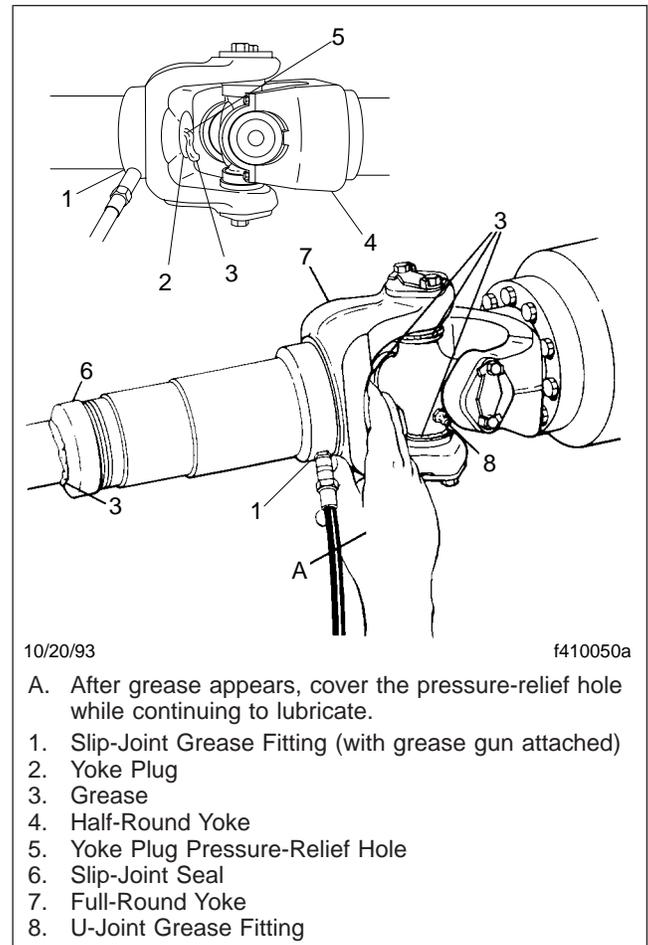

Fig. 4, Slip-Joint and U-Joint Lubricating
8. For driveshafts with slip-joints, check that the yoke plug is not loose or missing. See **Fig. 4**, Ref. 2. Replace the yoke plug if needed. If the yoke plug is missing, the splined shaft may be hitting the yoke plug and knocking it out; check the driveshaft for proper length.
1. Wipe all old grease and dirt from each U-joint grease fitting. See **Fig. 4**, Ref. 8.
1. Wipe all old grease and dirt from the slip-joint grease fitting. See **Fig. 4**, Ref. 1.
2. Use a hand-type grease gun or a high-pressure gun with a low-pressure adaptor, to lubricate the slip-joint. Using lithium 12 hydroxy stearate grease (NLGI grade 1 or 2, with EP additives), lubricate until fresh grease appears at the pressure-relief hole in the yoke plug. Then cover the relief hole with your finger, while continuing to lubricate until fresh grease appears at the slip-joint seal (**Fig. 4**, Ref. 6). This ensures complete lubrication of the splines.